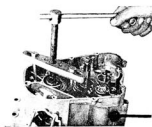

Fig. 4-14-2
- 2) Install the crankcase dividing tool on the right crankcase. Divide the crankcase while tapping the main shaft and the crankcase alternately, with plastic tip hammer. (Figs. 4-14-2 and 3)